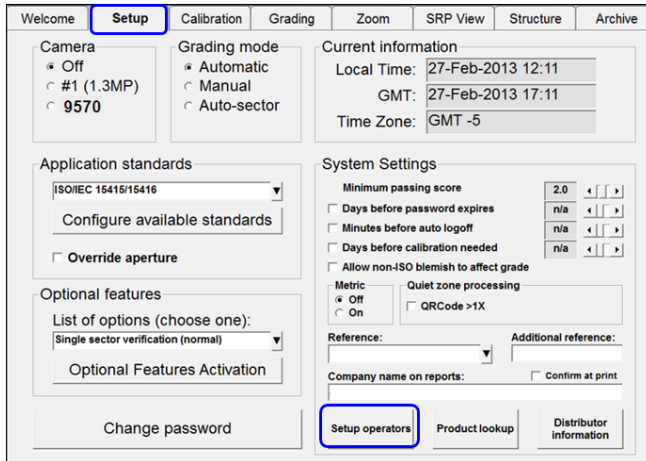

Figure 34: "Setup operators" button on the "Setup" tab
50. Click the “Setup” tab, and then click “Setup Operators” (Figure 34).